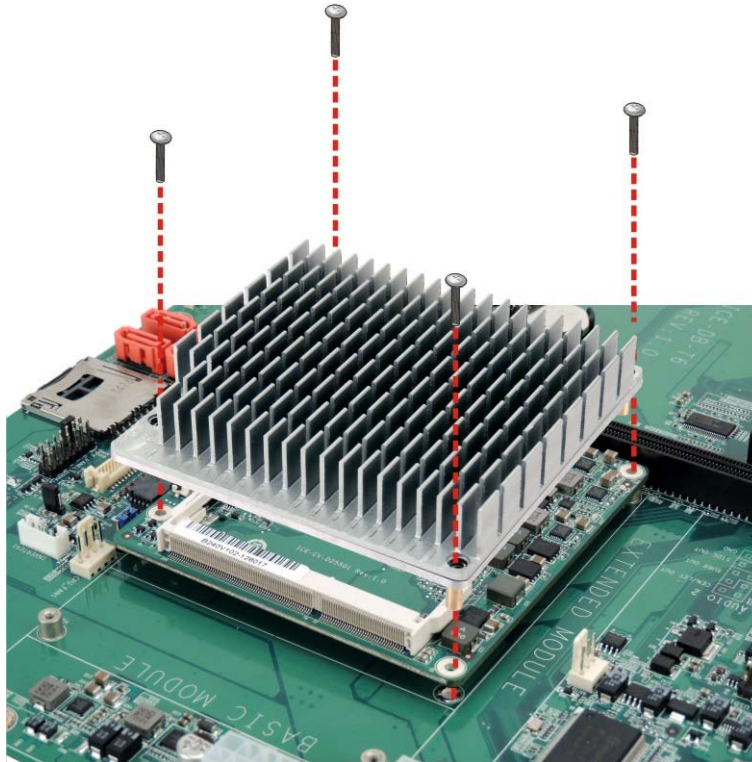

Figure 4-4: Secure the Heatspreader Plate with the Heat Sink to the Baseboard
- Step 3:** Place the heatspreader plate with the heat sink on the ICE-CV-D25501/N26001, aligning the four retention screw holes (**Figure 4-4**).
- Step 4:** Secure the heatspreader plate with the heat sink onto the baseboard with four retention screws (**Figure 4-4**).